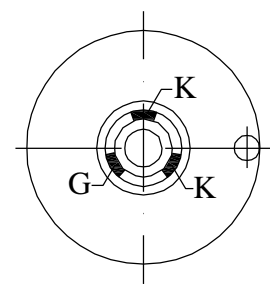

Fig.6
- Turn the wheel 90° at a time and see if it is balanced. If it is not, the correction weight "K" must be moved until the wheel is balanced in any position (Fig. 6)